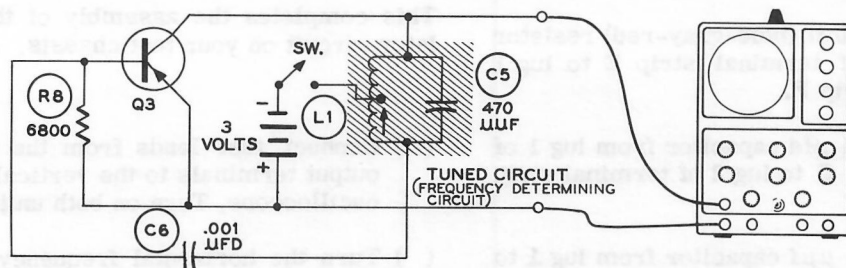

Figure 3-54
In the first part of this experiment you will build a radio frequency (RF) oscillator. An RF oscillator has three basic sections; an amplifier, feedback, and a tuned circuit. You will examine the tuned circuit variation as shown by the shaded area in Figure 3-54.